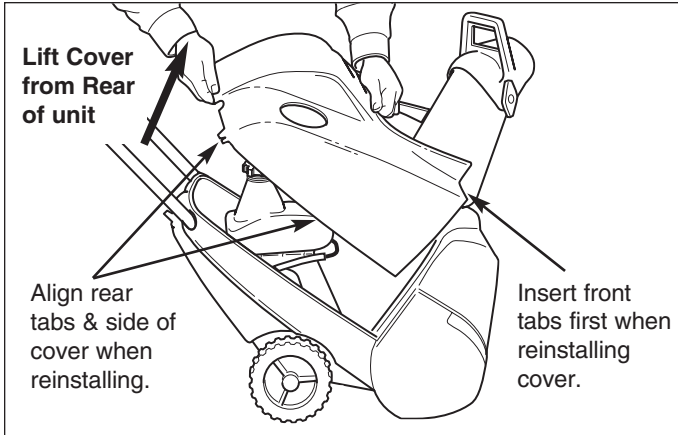

Figure 12. Cover Removal & Installation
4. Remove the cover (see Figure 12 on page 14).